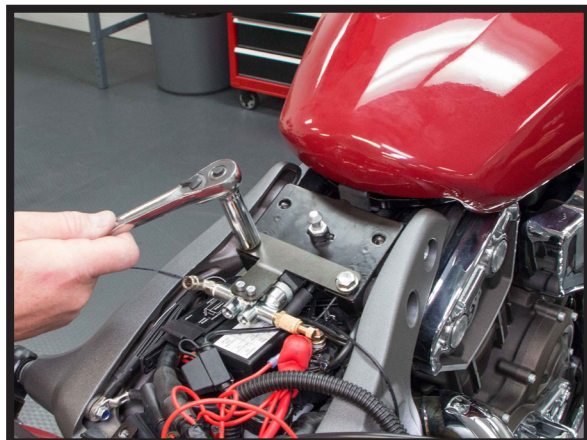

FIGURE 15
8. MOUNT THE AIR MANIFOLD ONTO THE INCLUDED BRACKET IN THE ORIENTATION SHOWN BELOW. THEN MOUNT IT TO THE FRAME WITH THE STOCK FUEL TANK HARDWARE. CUT THE 1/4" AIR LINE TO LENGTH AND INSERT IT INTO THE MANIFOLD. (FIGURES 15, 16)